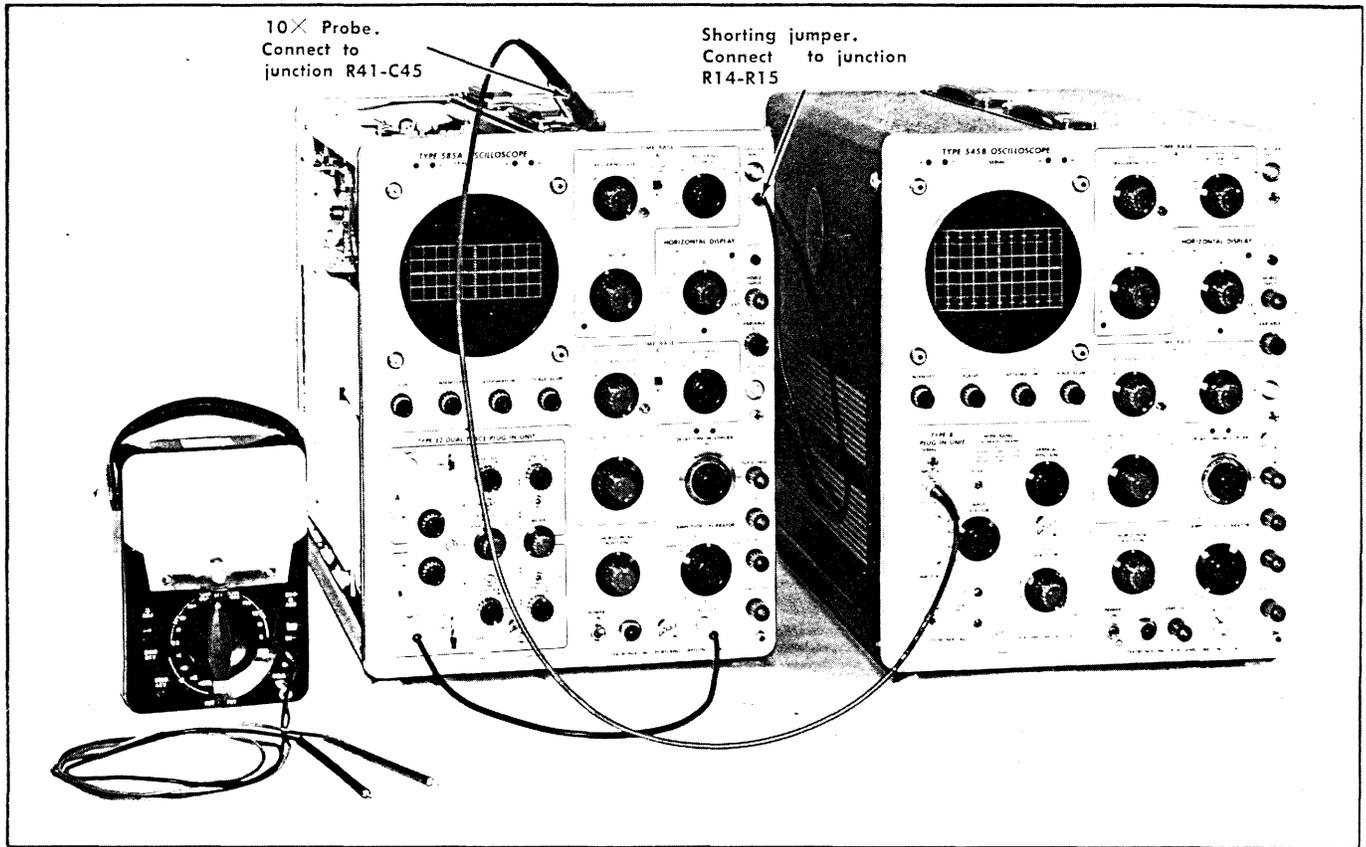

Fig. 6-14. Test setup for steps 18 through 20.
a. Equipment setup is shown in Fig. 6-14.